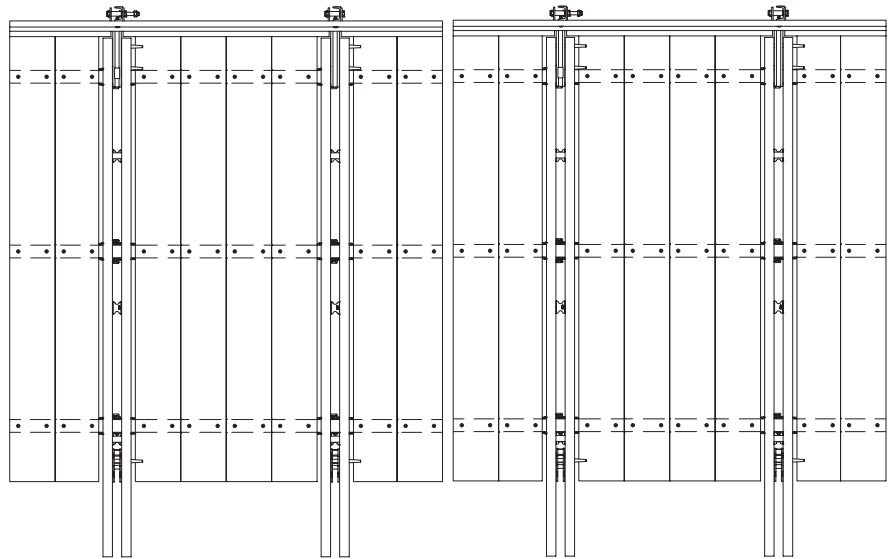

Fig. A7.01
1. The planking is to be fixed to the beams at each intersection point using nails or screws. (Fig. A7.01)